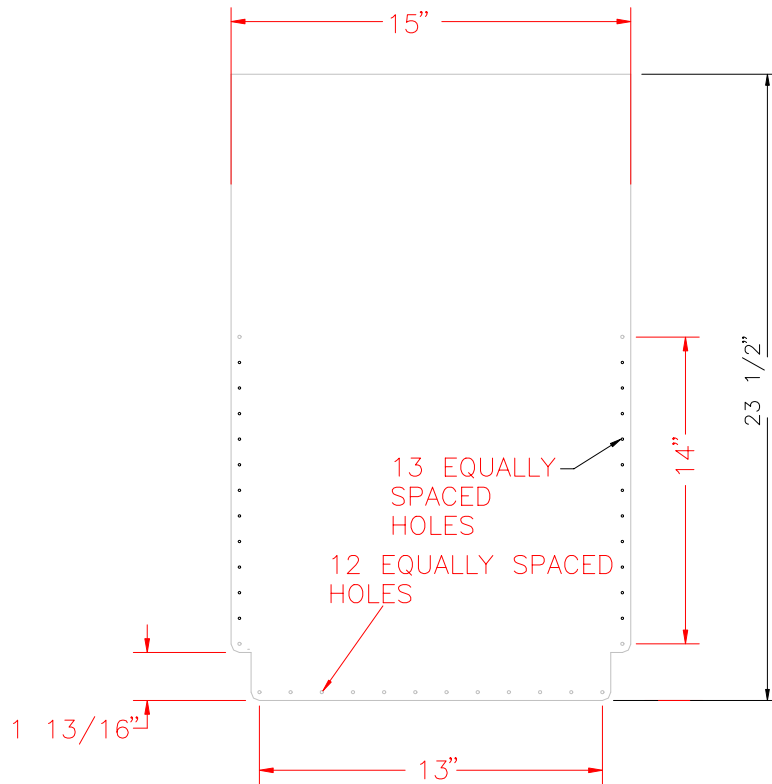

Figure 22.1.1
1) Trim two upright seat panels (SA-47) as in figure 22.1.1. Also layout and drill #30 holes.